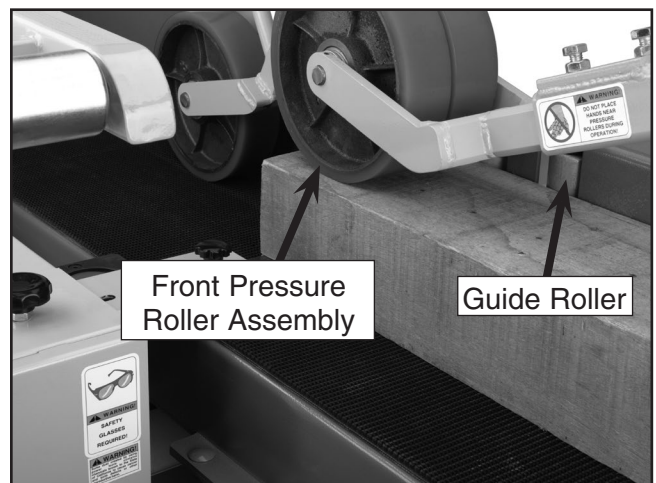

Figure 34. Feeding the workpiece through the bandsaw.
7. Begin feeding the workpiece under the front pressure rollers with a flat edge against the guide rollers, as shown in **Figure 34**.